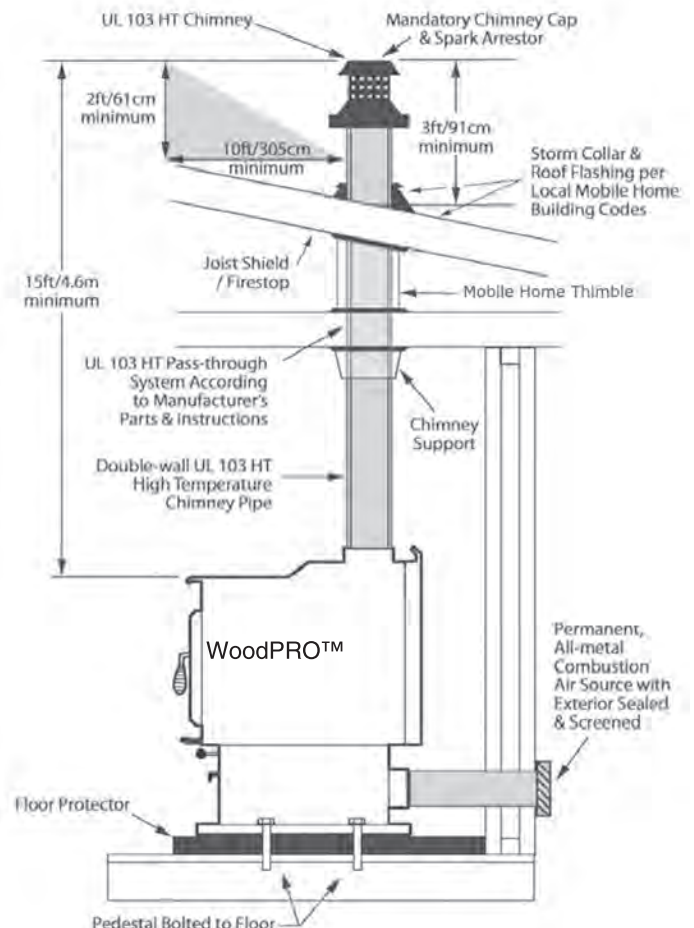

Figure 9 – Mobile Home Installation
2. Install a fire clay (5/8”/16mm minimum thickness) thimble. Make sure the thimble is flush with the inner surface of the chimney liner and does not protrude into the flue (see figure 9 on page 13).